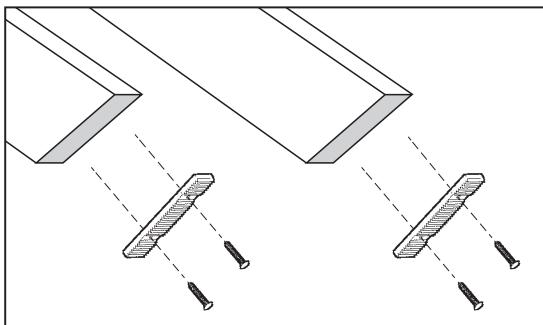

FIGURE 12
E. Install rubber tread to bottom ends of rail using 1" screws provided. Drill $\frac{1}{16}$ " pilot holes into wood prior to installing screws to prevent splitting of rail (Figure 12).